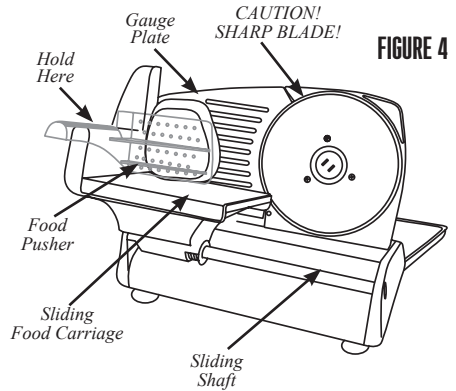

FIGURE 4
7. Hold the Food Pusher/Sliding Food Carriage Handle; keep your hands protected behind the Food Pusher (**FIGURE 4**).